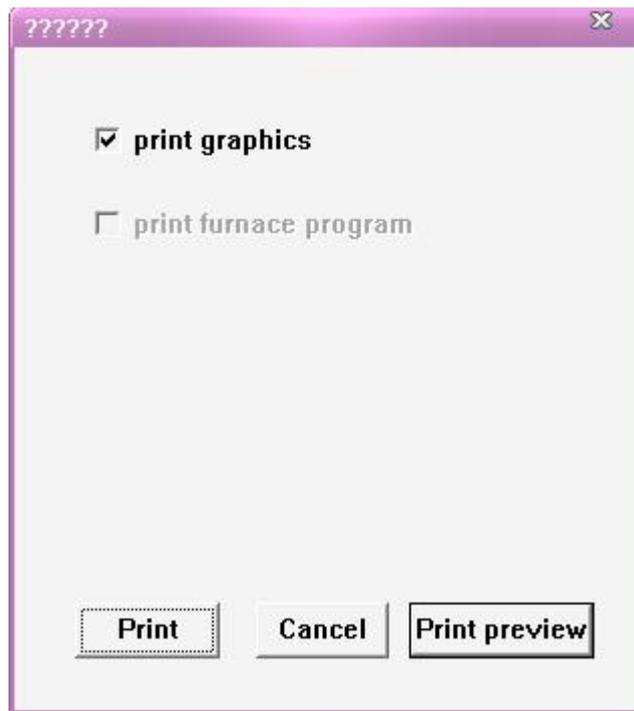

Figure 5-51
2. Press **【Print】** button, display the figure 5-51